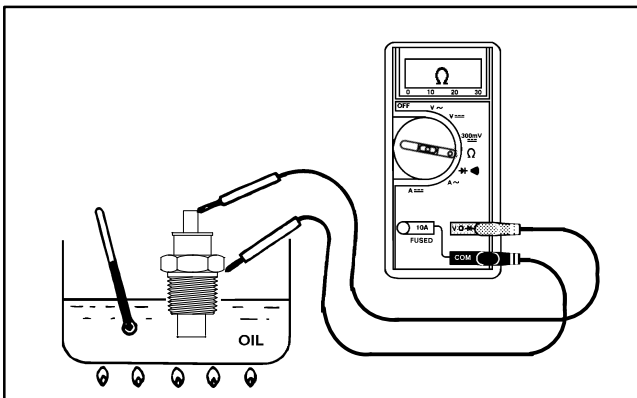

Figure 38
4. Put fan switch in a container of oil with a thermometer and slowly heat the oil (Fig. 38).